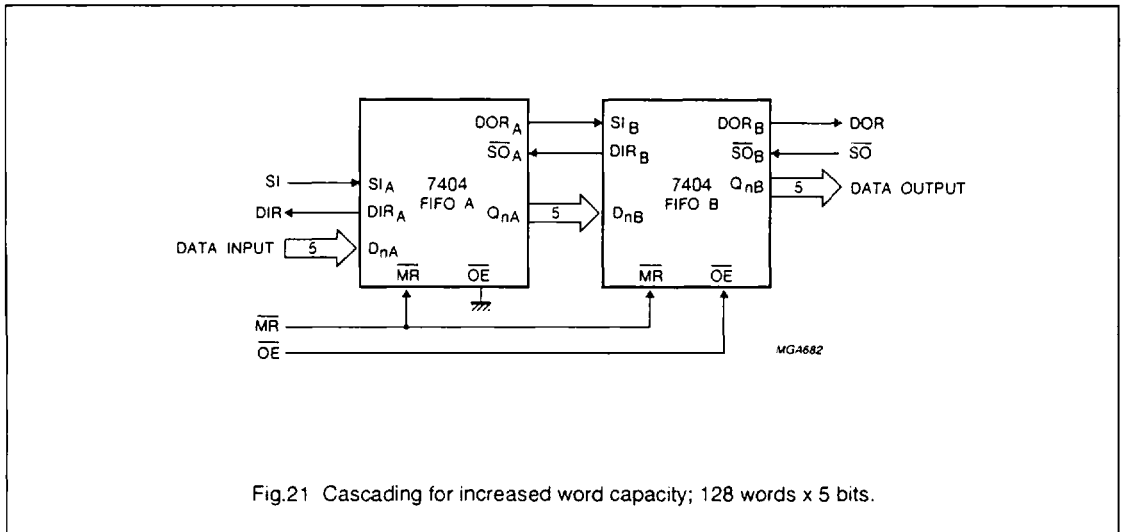
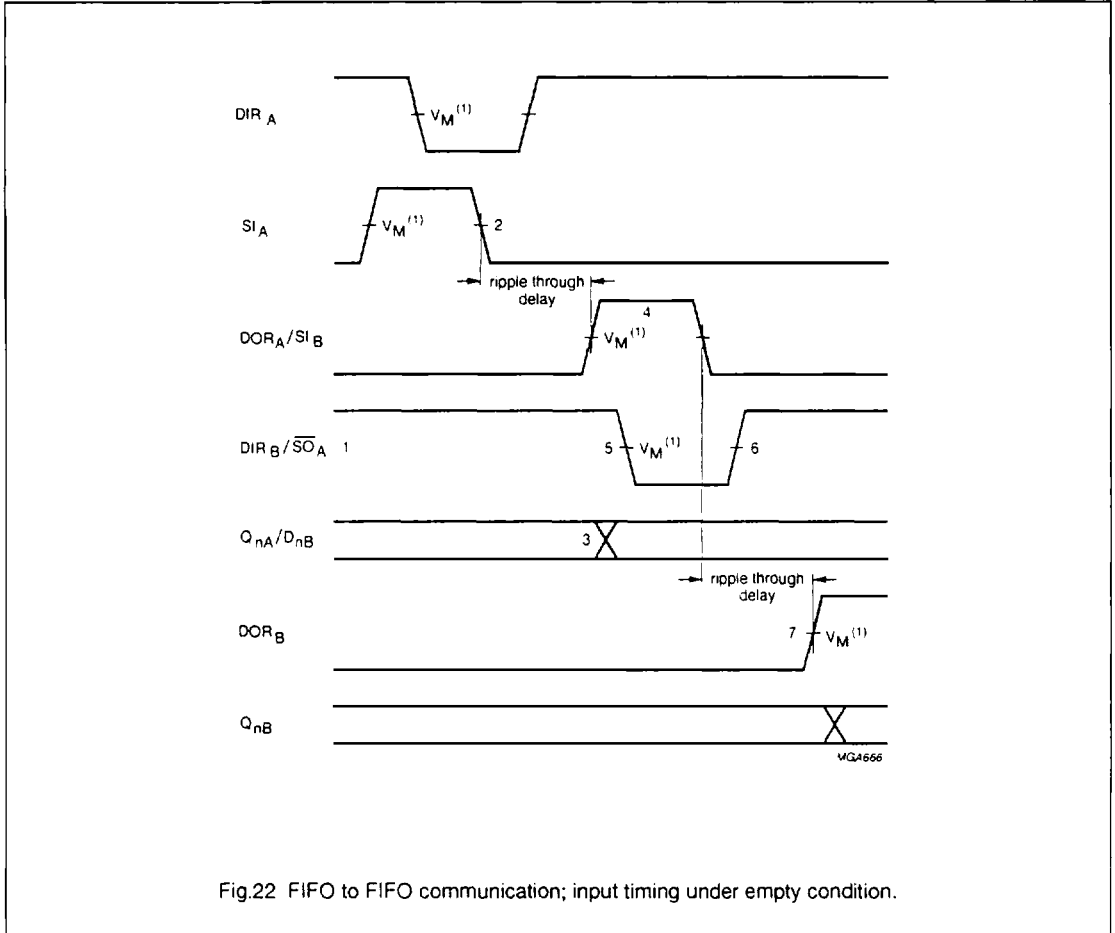
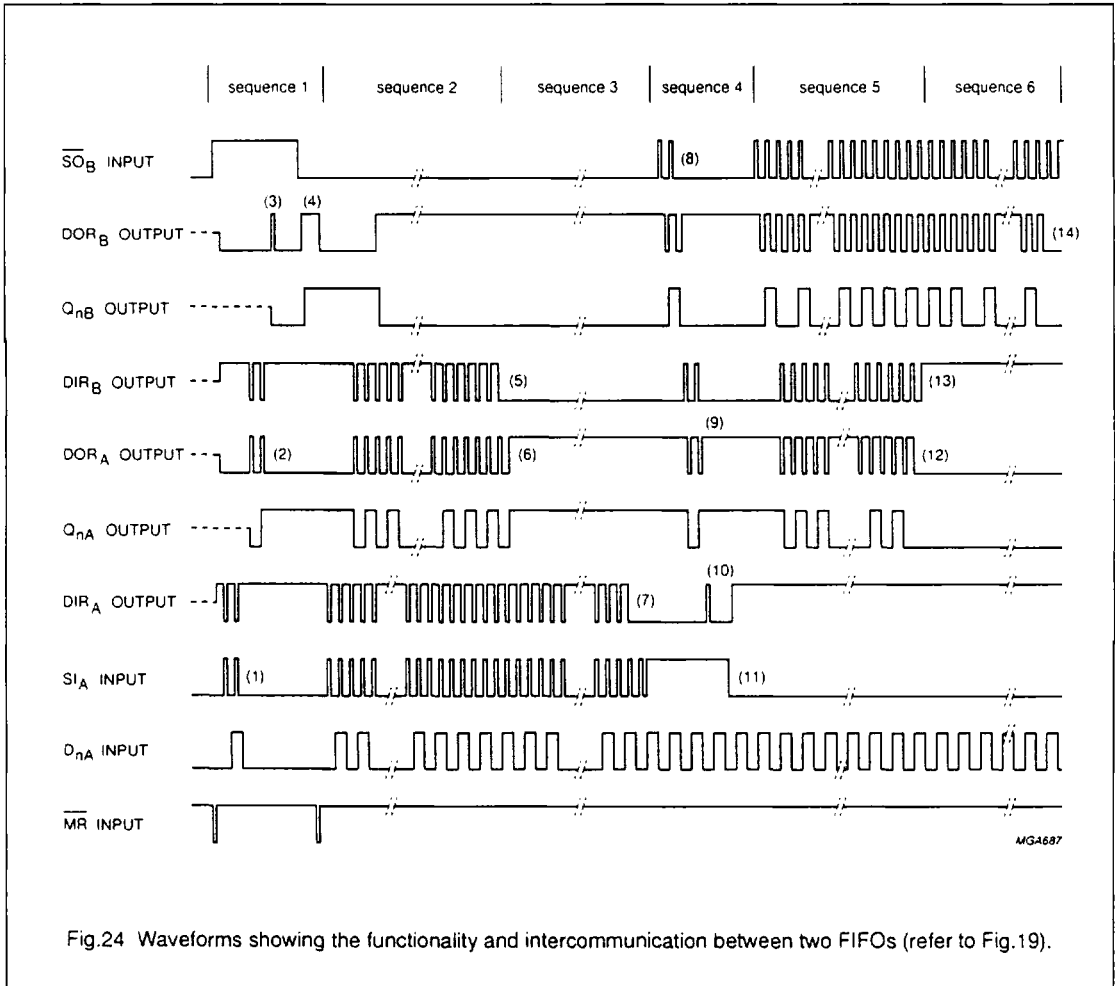

Fig.21 Cascading for increased word capacity; 128 words x 5 bits.
Fig.22 FIFO to FIFO communication; input timing under empty condition.
Fig.24 Waveforms showing the functionality and intercommunication between two FIFOs (refer to Fig.19).
Figure 21 shows two cascaded FIFOs providing a capacity of 128 words x 5 bits. Figure 22 shows the signals on the nodes of both FIFOs after the application of a SI pulse, when both FIFOs are initially empty. After a ripple through delay, data arrives at the output of FIFOA. Due to  $\overline{SO}_A$  being HIGH, a DORA pulse is generated. The requirements of SIB and DnB are satisfied by the DORA pulse width and the timing between the rising edge of DORA and QnA. After a second ripple through delay, data arrives at the output of FIFOB.
Figure 23 shows the signals on the nodes of both FIFOs after the application of a  $\overline{SO}_B$  pulse, when both FIFOs are initially full. After a bubble-up delay a DIRB pulse is generated, which acts as a  $\overline{SO}_A$  pulse for FIFOA. One word is transferred from the output of FIFOA to the input of FIFOB. The requirements of the  $\overline{SO}_A$  pulse for FIFOA is satisfied by the pulse width of DORB. After a second bubble-up delay an empty space arrives at DnA, at which time DIRA goes HIGH. Figure 24 shows the waveforms at all external nodes of both FIFOs during a complete shift-in and shift-out sequence.
**Note to Fig.21**
The "7404" is easily cascaded to increase word capacity without any external circuitry. In cascaded format, all necessary communications are handled by the FIFOs. Figures 22 and 23 demonstrate the intercommunication timing between FIFOA and FIFOB. Figure 24 provides an overview of pulses and timing of two cascaded FIFOs, when shifted full and shifted empty again.
Notes to Fig.22
Note to Fig.24